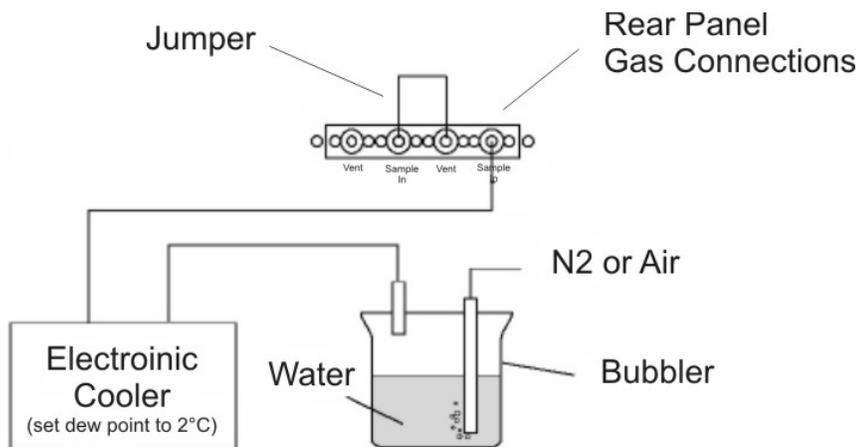

Figure 4-10: Bubbler Apparatus
2. Display the moisture interference compensation screen of the analyzer unit (see Section 3.6.5 Moisture Interference Adjustment). Set the dew point to $2^\circ C$ by using an electronic cooler, and introduce bubbled N_2 or air to the analyzer (shown in the Figure 4-10).